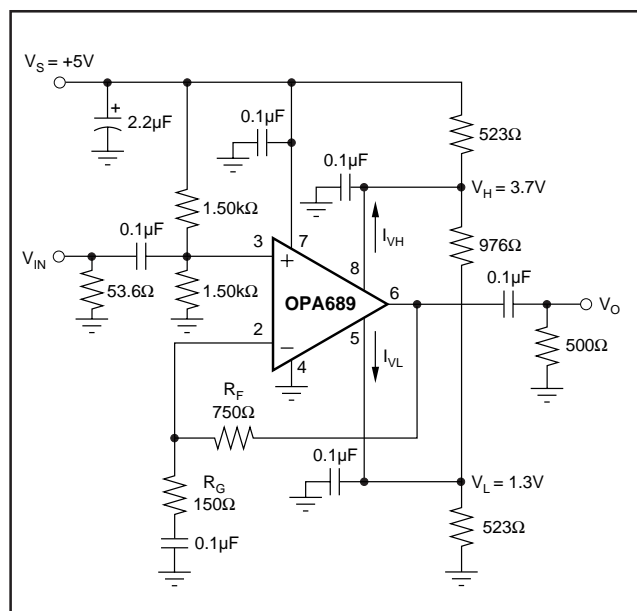

FIGURE 2. AC-Coupled, Single Supply Amplifier.
$G = +6$, $R_F = 750\Omega$, $R_L = 500\Omega$ tied to $V_{CM} = 2.5V$, $V_L = V_{CM} - 1.2V$, $V_H = V_{CM} + 1.2V$, (Figure 2 for AC performance only), unless otherwise noted.
NOTES: (1) Junction Temperature = Ambient Temperature for low temperature limit and 25°C guaranteed specifications. Junction Temperature = Ambient Temperature + 23°C at high temperature limit guaranteed specifications. (2) TEST LEVELS: (A) 100% tested at 25°C. Over temperature limits by characterization and simulation. (B) Limits set by characterization and simulation. (C) Typical value for information only. (3) Current is considered positive out of node. (4) CMIR tested as < 3dB degradation from minimum CMRR at specified limits. (5) I_{VH} (V_H bias current) is negative, and I_{VL} (V_L bias current) is positive, under these conditions. See Note 3 and Figures 2 and 7. (6) Limiter feedthrough is the ratio of the output magnitude to the sinewave added to V_H (or V_L) when $V_{IN} = 0$. (7) V_H slew rate conditions are: $V_{IN} = V_{CM} + 0.4V$, $G = +6$, $V_L = V_{CM} - 1.2V$, $V_H = \text{step between } V_{CM} + 1.2V \text{ and } V_{CM}$. V_L slew rate conditions are similar. (8) Linearity Guardband is defined for an output sinusoid ($f = 5\text{MHz}$, $V_O = V_{CM} \pm 1V_{p-p}$) centered between the limiter levels (V_H and V_L). It is the difference between the limiter level and the peak output voltage where SFDR decreases by 3dB (see Figure 8).
$G = +6$, $R_F = 402\Omega$, $R_L = 500\Omega$ tied to $V_{CM} = 2.5V$, $V_L = V_{CM} - 1.2V$, $V_H = V_{CM} + 1.2V$, (Figure 2 for AC performance only), unless otherwise noted.
Figure 2 shows an AC coupled, non-inverting gain amplifier for single supply operation. This circuit was used for AC
The OPA689 is nominally specified for operation using either $\pm 5\text{V}$ supplies or a single $+5\text{V}$ supply. The maximum specified total supply voltage of 13V allows reasonable tolerances on the supplies. Higher supply voltages can break down internal junctions, possibly leading to catastrophic failure. Single supply operation is possible as long as common mode voltage constraints are observed. The common mode input and output voltage specifications can be interpreted as a required headroom to the supply voltage. Observing this input and output headroom requirement will allow design of non-standard or single supply operation circuits. Figure 2 shows one approach to single-supply operation.
When the limiter voltages need to be within 2.1V of the supplies ($V_L \leq -V_S + 2.1V$ or $V_H \geq +V_S - 2.1V$), use low impedance voltage sources to set V_H and V_L to minimize errors due to bias current uncertainty. This will typically be the case for single supply operation ($V_S = +5V$). Figure 2 runs 2.5mA through the resistive divider that sets V_H and V_L . This keeps errors due to I_{VH} and $I_{VL} < \pm 1\%$ of the target limit voltages.